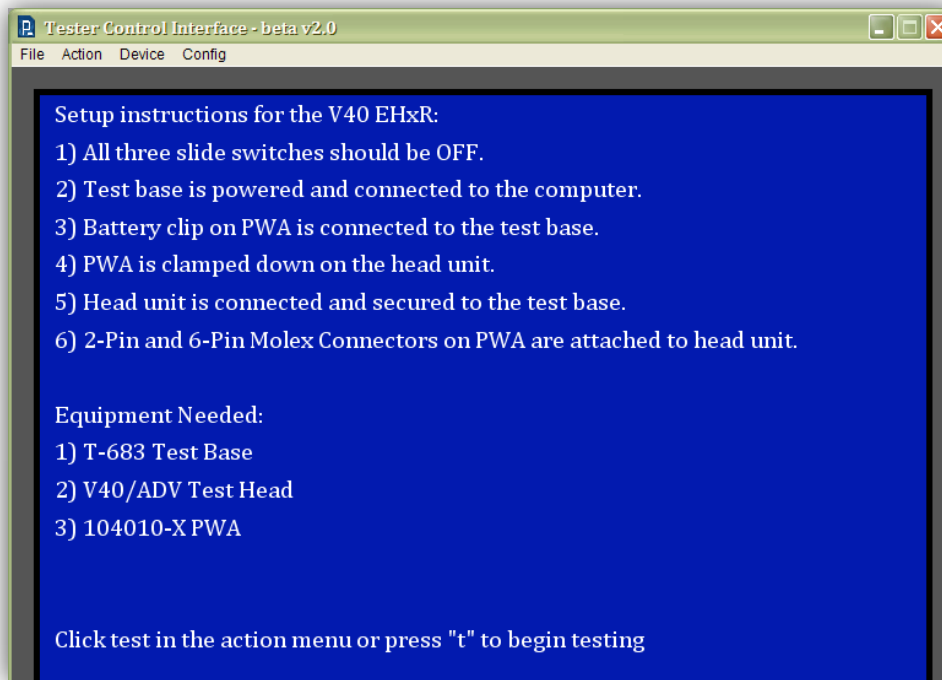

Figure 6
- 2) Follow the testing setup procedure that is displayed on the console screen after selecting a device (Figure 6).